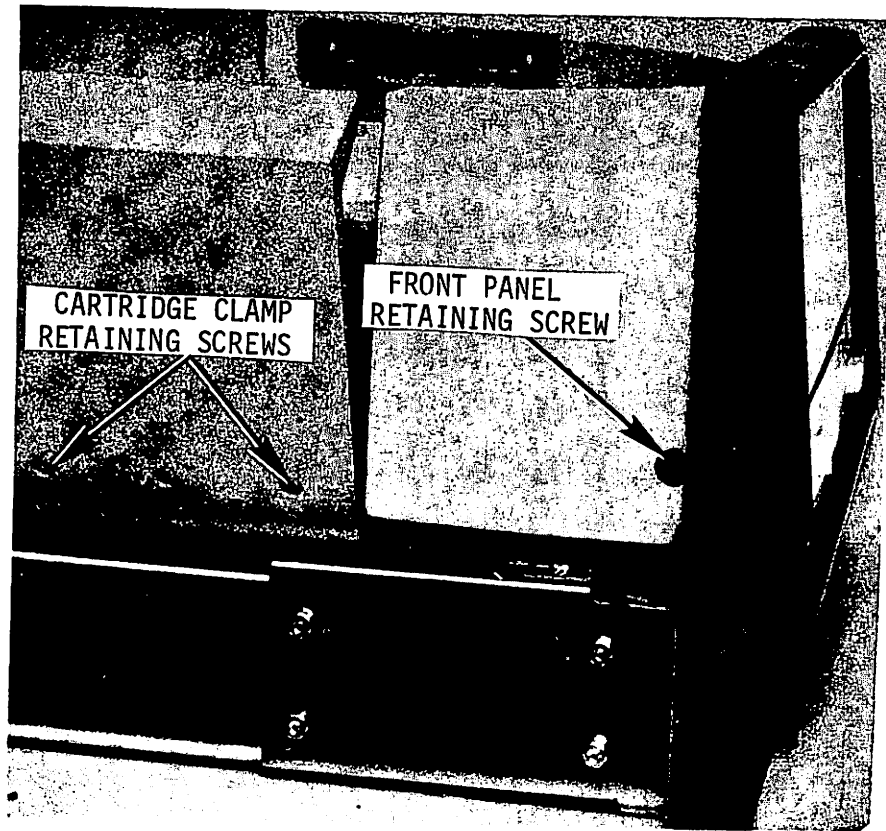

FIGURE 1
- a) Loosen the two Hex screws (one each side) that hold on the front panel. Carefully lower the front panel to the maintenance position. See Figure 1.
- a) Remove both cartridge clamp mechanisms, each held in place by two Allen screws. See Figure 1. Before removing the lefthand cartridge clamp, disconnect the wires leading to the cartridge interlock switch.